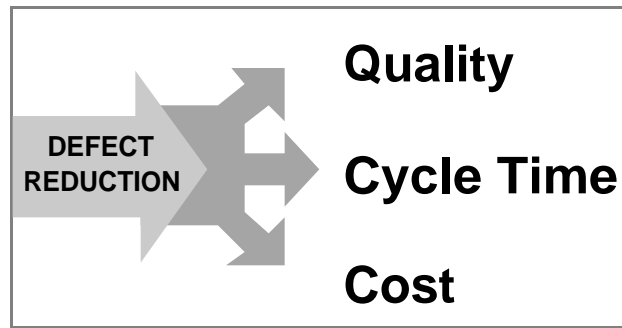

Figure 14 - Synergism of Six Sigma
4. Synergism - Reduction of defects is not the only benefit from Six Sigma. It has a synergistic effect in other areas as well (Figure 14). Preventing defects improves the quality of the product. Cycle time is reduced by reducing inspection and rework of defects, and by streamlining the work processes. Those streamlined, defect-free processes produce better results at lower cost. They don't waste resources.